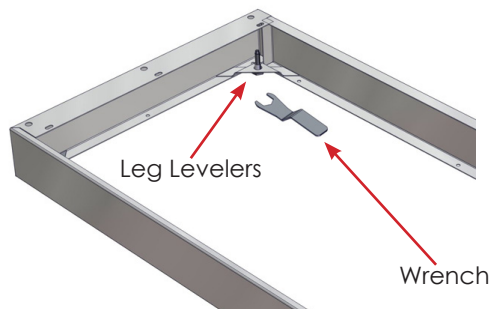

Fig. 7: Adjust Leg Levelers
2. Place the Cabinet Base at the desired location. If Leg Levelers are provided with the base, use a level and the provided wrench (Part# REPL-SSWRENCH) to adjust the four leg levelers in the cabinet base until the base is level (Fig. 7).